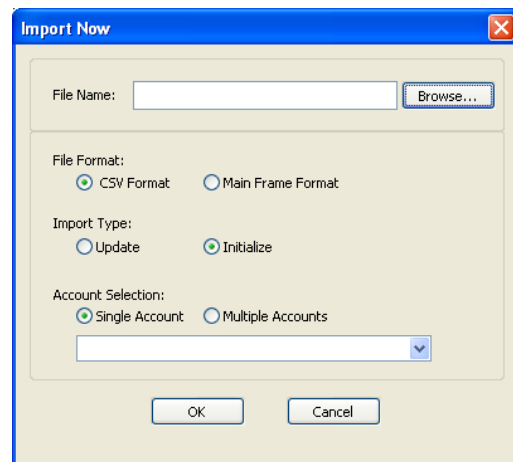

Figure 68
2. From FILE pull down menu, select IMPORT and then choose IMPORT NOW or SCHEDULED IMPORT. The selected import window will appear (Fig 68).